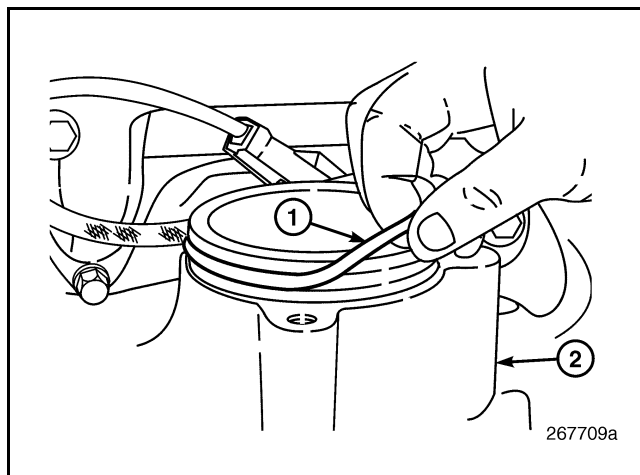

Figure 510 — O-Ring Installation
- Clean and inspect the mounting collar on the inlet manifold. Then, install a **new** O-ring on the collar (Figure 510).